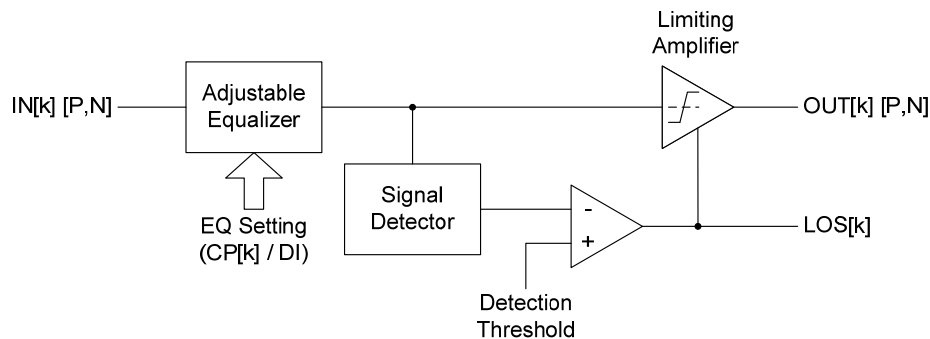

FIGURE 7: FUNCTIONAL DIAGRAM OF A SINGLE CHANNEL WITHIN THE QLx4600-SL30
The QLx4600-SL30 is an advanced quad lane-extender for high-speed interconnects. A functional diagram of one of the four channels in the QLx4600-SL30 is shown in Figure 7. In addition to a robust equalization filter to compensate for channel loss and restore signal fidelity, the QLx4600-SL30 contains unique integrated features to preserve special signaling protocols typically broken by other equalizers. The signal detect function is used to mute the channel output when the equalized signal falls below the level determined by the Detection Threshold (DT) pin voltage. This function is intended to preserve periods of line silence ("quiescent state" in InfiniBand contexts). Furthermore, the output of the signal detect / DT comparator is used as a loss of signal (LOS) indicator to indicate the absence of a received signal.
As illustrated in Figure 7, the core of each high-speed signal path in the QLx4600-SL30 is a sophisticated equalizer followed by a limiting amplifier. The equalizer compensates for skin loss, dielectric loss, and impedance discontinuities in the transmission channel. Each equalizer is followed by a limiting amplification stage that provides a clean output signal with full amplitude swing and fast rise-fall times for reliable signal decoding in a subsequent receiver.